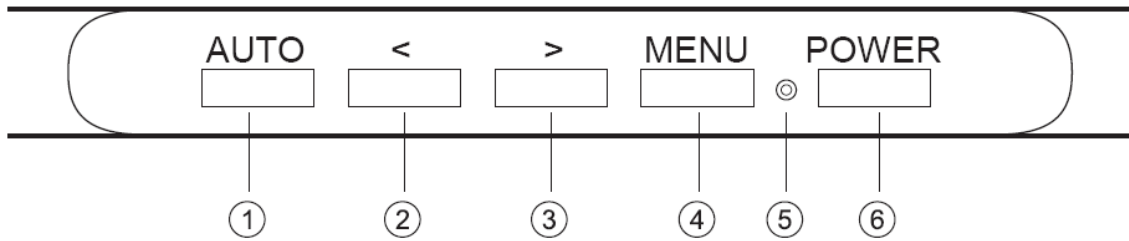

Figure 3 External Control Button
Press the **MENU** button (④ in fig. 3) to display the OSD menu on the screen.
1. There are a total of 5 OSD submenus divided by categories. Select the desired submenu by pressing the OSD button **<** or **>** button (② and ③ in fig. 3); see section “OSD Menu Functions”.
2. Press the OSD button **MENU** (④ in fig. 3) to activate the selected function or associated submenu.
3. If you selected submenu, now select the sub-function you want using the OSD buttons **<** or **>**(② and ③ in fig. 3).
4. Set the desired value using the OSD button **<** or **>**(② and ③ in fig. 3).
6. The OSD menu automatically disappears if no changes are made for more than 45 seconds (default setting). The current settings will be saved. You can close it manually by pressing the **AUTO** (① in fig. 3) button